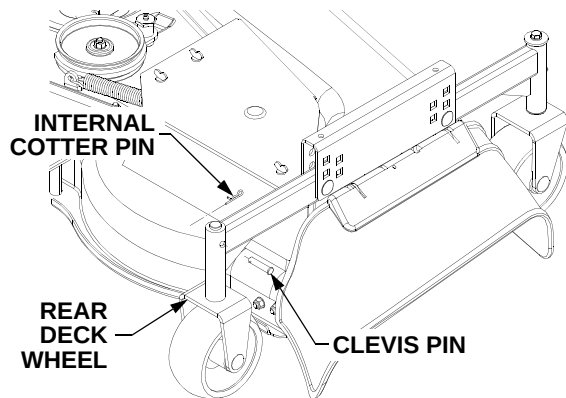

Figure 60
- Remove the internal cotter pins and clevis pins to allow the rear deck wheels to pivot. See Figure 60.
- Remove the internal cotter pins and clevis pins to allow the rear deck wheels to pivot. Refer to Figure 60.